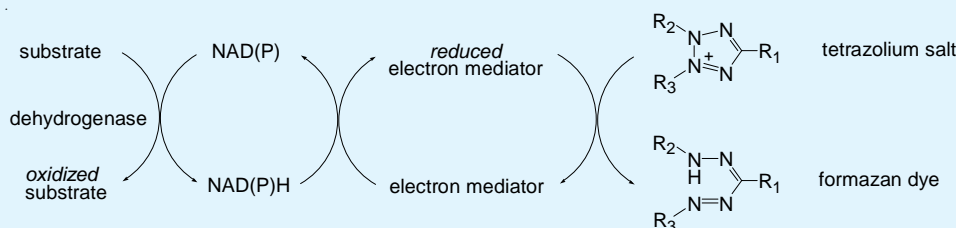

Fig. 7-2 Mechanism of Electron Transfer to Tetrazolium salt
The mechanism of the dehydrogenase detection is shown in Fig. 7-2. Dehydrogenase oxidizes its substrate and reduces its co-enzyme, β -nicotinamido adenine dinucleotide (NAD) or β -nicotinamido adenine dinucleotide-phosphate (NADP). Then the electron of NADH or NADPH is transferred to the tetrazolium salt via an electron mediator, such as 1-Methoxyphenazine methosulfate (1-Methoxy PMS) or diaphorase. 1-Methoxy PMS is one of the most stable electron mediators and has no selectivity when reacting with NADH and NADPH. On the other hand, diaphorase has more specificity with NAD(P) reaction and with certain types of tetrazolium salt.